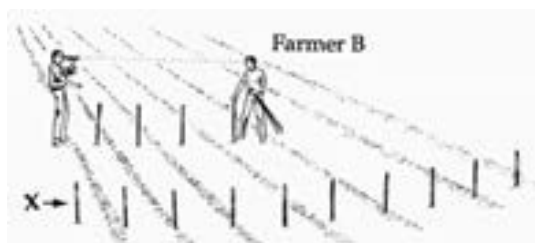

Figure 18a. Farmer B and his extension worker peg out contour lines along the old furrow.
The vetiver hedges, however, do not have to be exactly on the contour to provide effective soil and moisture conservation since their purpose is to reduce the velocity of the water as it passes through them and not to channel the water elsewhere. After the contour line has been pegged in (see Figure 18a, page 26), the extension worker can smooth
If he had taken the advice of his extension service and plowed and planted on the contour, farmer B could have obtained the same high yields as farmer A. Photos 17a and 17b attest to the success of crops that are protected by vetiver hedges. Having learned his lesson, farmer B contacts his extension worker, and together they mark, or peg out, contour lines across the old furrows. (See Figure 18a.) This simple process requires virtually no engineering skills - only the use of a small hand-held level (or A frame). The extension worker stands at the edge of the field and, sighting through the level, has farmer B move up or down the slope until the two people are standing level, at which point the farmer marks the spot with a peg. In Figure 18a, the contour line (X) has already been pegged out, and the farmer has but to follow the line of pegs with his plow (as shown in Figure 18b) to create the furrow in which to plant the slips of vetiver grass that will eventually